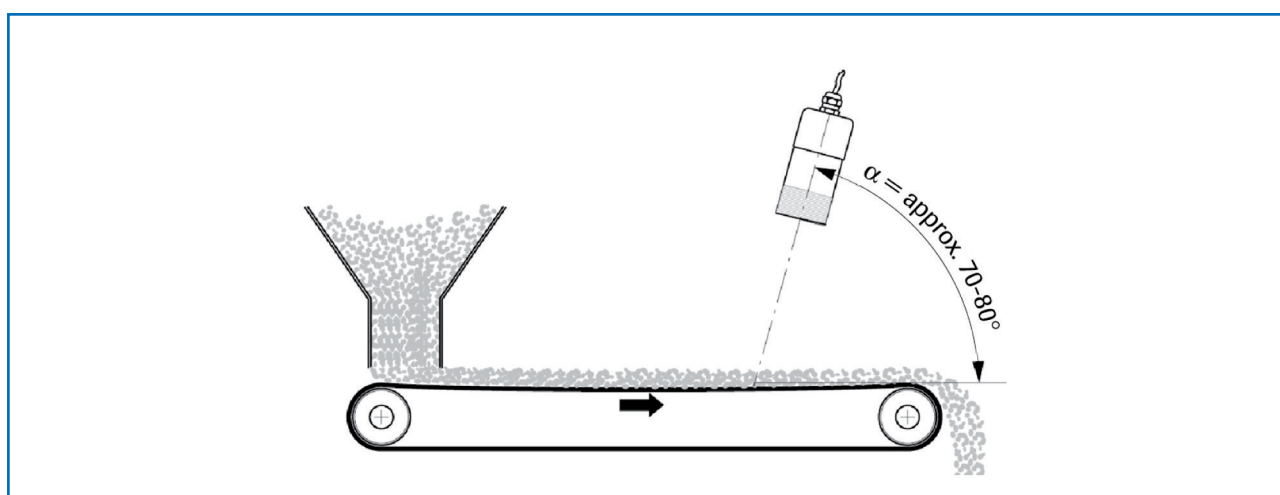

Fig. 7: Installation above conveyor belt
If the installation is above a conveyor belt, then the FlowJam S has to be installed at an angle of approx. 70 - 80° (fig. 7), in order to use the changing surface profile of the bulk material flow.
- properties of the material flow (see e. g. fig. 7)